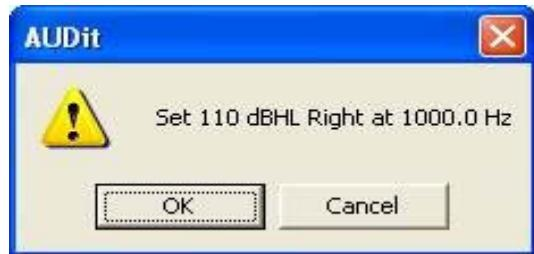

FIGURE 8-2 Level and Frequency Set Dialog Box
Step 4 Click the **Measure All** button to perform a linearity test on the right earphone. AUDit then displays the prompt shown in Figure 8-2 to measure the lower end of the test range: